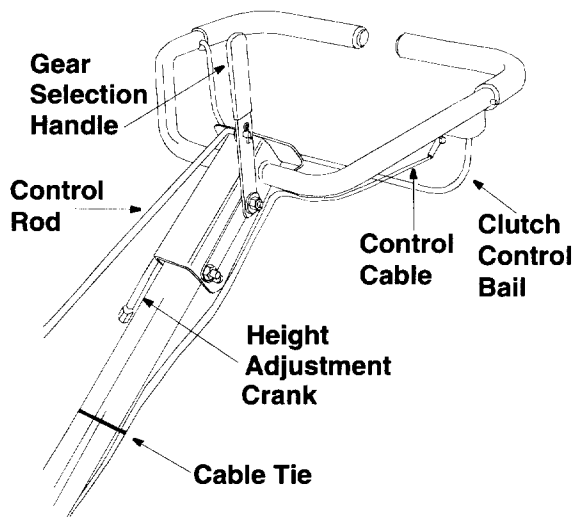

Figure 8
Secure drive cable to handle using cable tie. Refer to Figure 8. Cut off excess end of cable tie.
3. Insert the remaining end of the control rod through the hole in the gear selector handle and secure with hairpin clip. See Figure 8.
The gear selection handle is located in the center of the handle on the tiller. It is used to select NEUTRAL, REVERSE, or one of the FORWARD modes (see below). Pull or push the handle so that the indicator on top of shift cover points to the operating mode desired. See Figure 8.
The clutch control bail is located below the handle. See Figure 8. Lifting the clutch control bail against the handle engages the wheel and tine drive mechanisms.
## HANDLE ADJUSTMENT (See Figure 8)